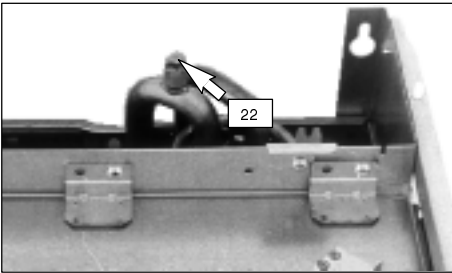

fig. 6.5
- 3 To empty **Combination** boilers more easily, slacken off the manual bleed valve fitted to the primary water pipe of the domestic hot water heat exchanger (22 in fig. 6.5).